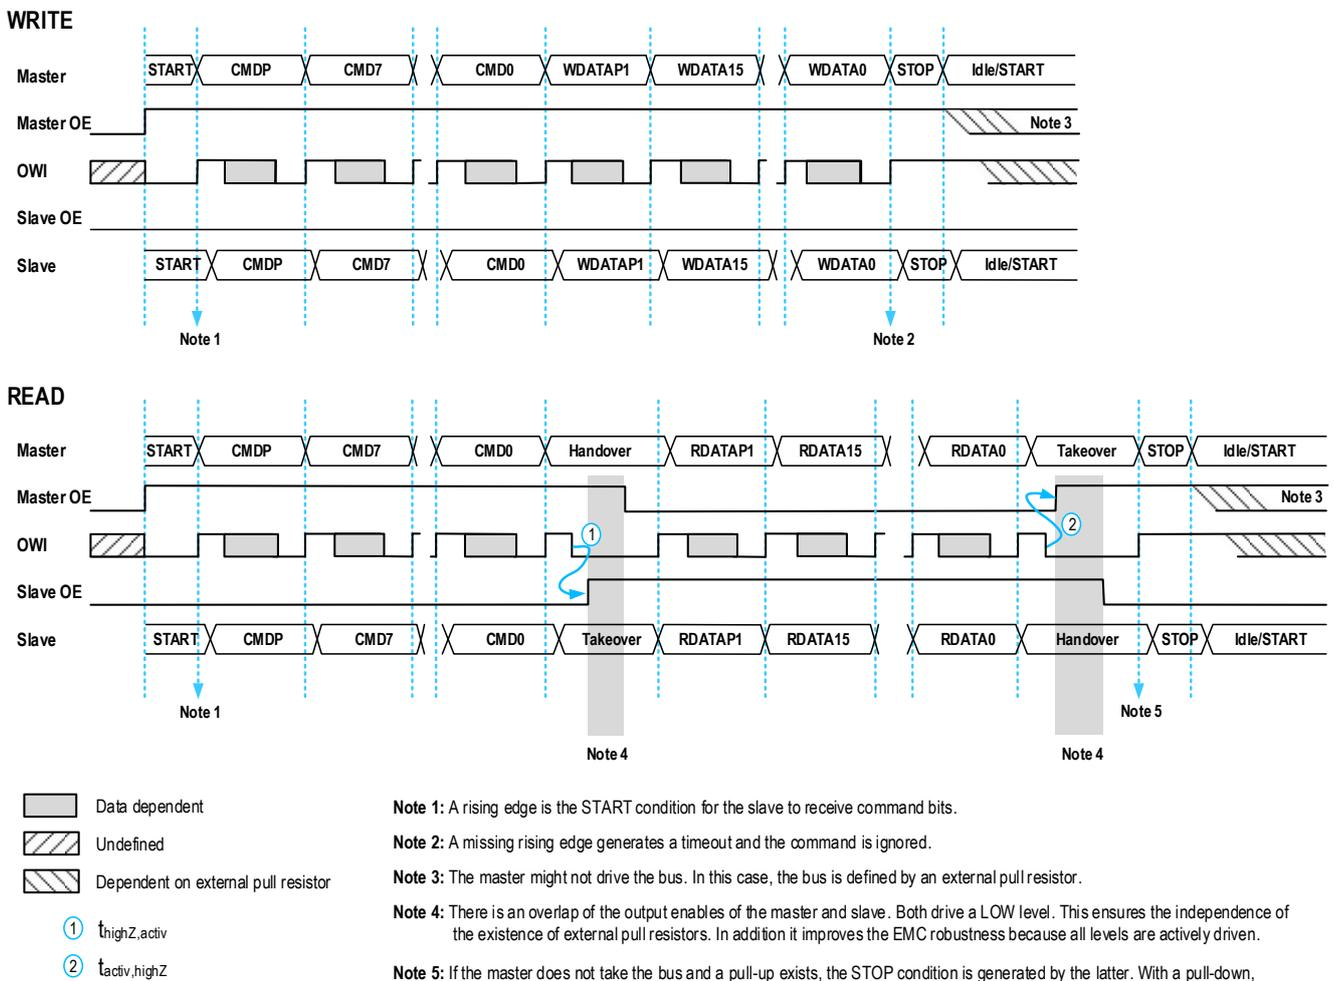

Figure 5. OWI Detailed Data Transfer
- Figure 5. OWI Detailed Data Transfer5
Figure 5 shows the timing for full WRITE and READ access. Each command consists of an associated parity bit followed by 8 command bits (CMDP, CMD7 to CMD0). Each data word consists of the parity bit associated with the 8 most significant bits (MSBs) followed by the 8 MSBs and then the parity bit associated with the 8 least significant bits (LSBs) followed by the 8 LSBs (DATAP1, DATA15 to DATA8, DATAP0, DATA7 to DATA0). The parity bit is always transferred first followed by the data starting with the MSB.
Figure 5 illustrates this protocol using the prefix R or W to indicate the direction of the parity and data bits.
3. See section 2.3.2, section 2.3.3, and Figure 5 for further information.